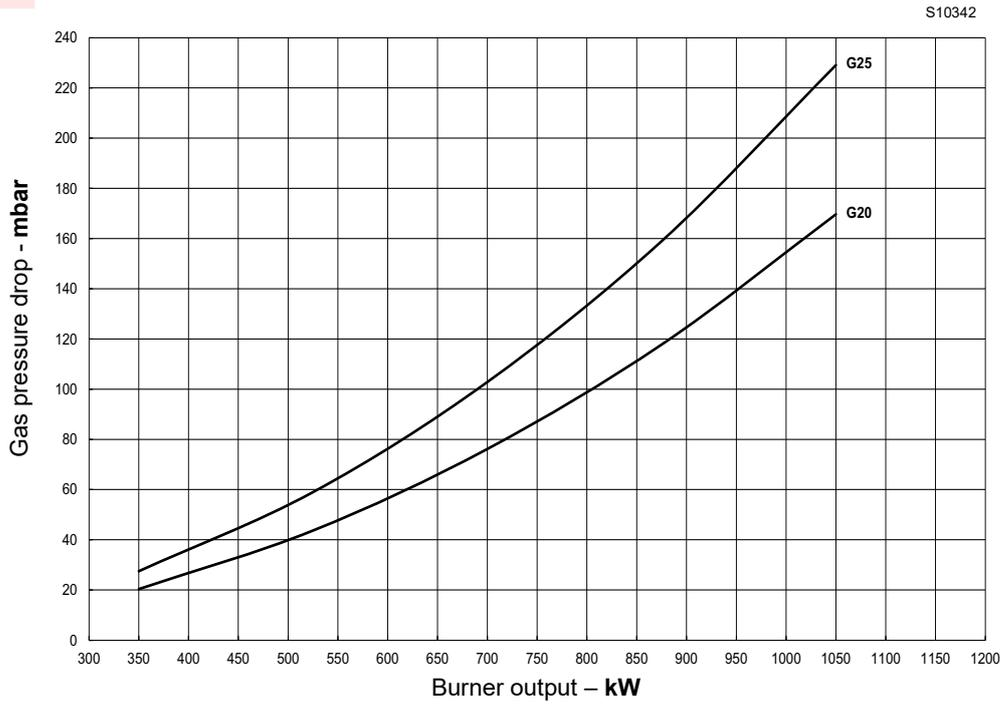
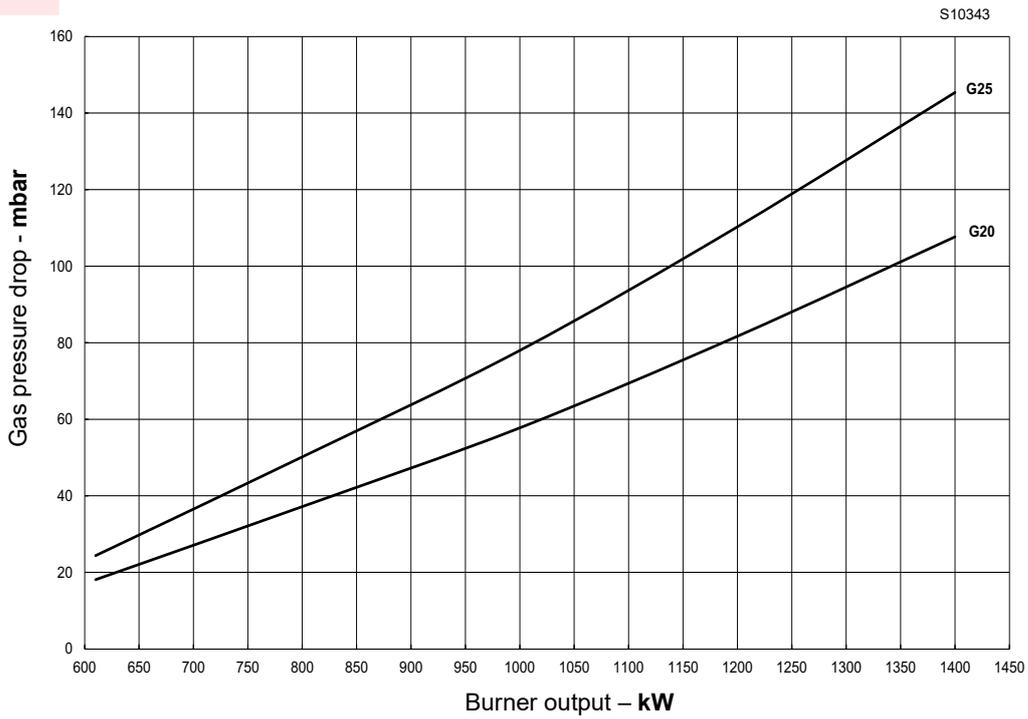
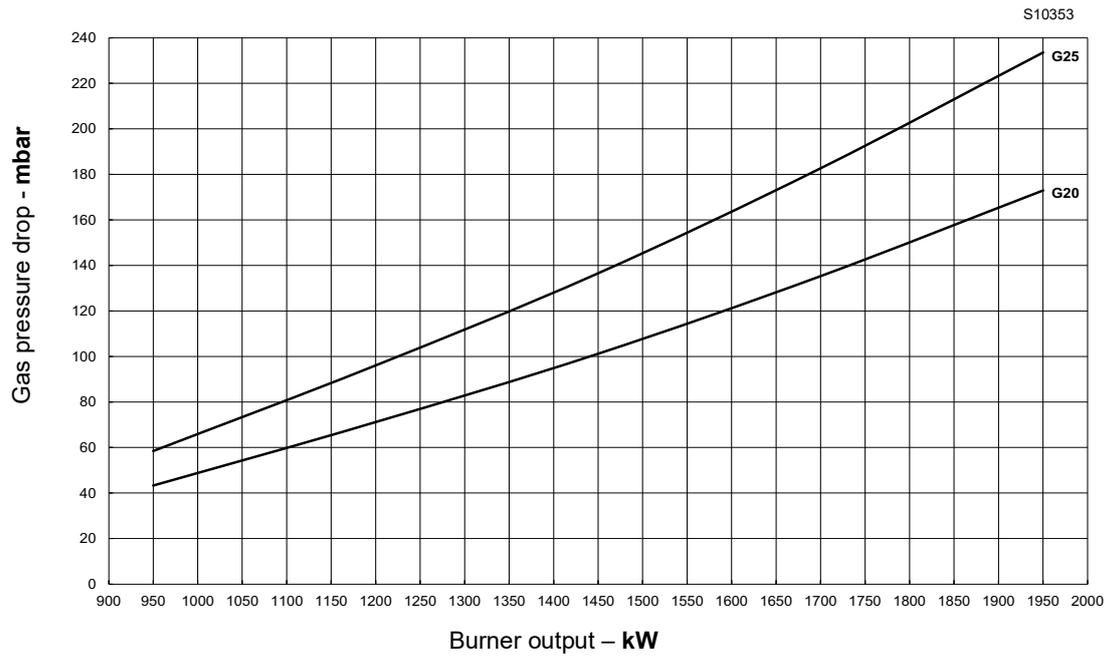
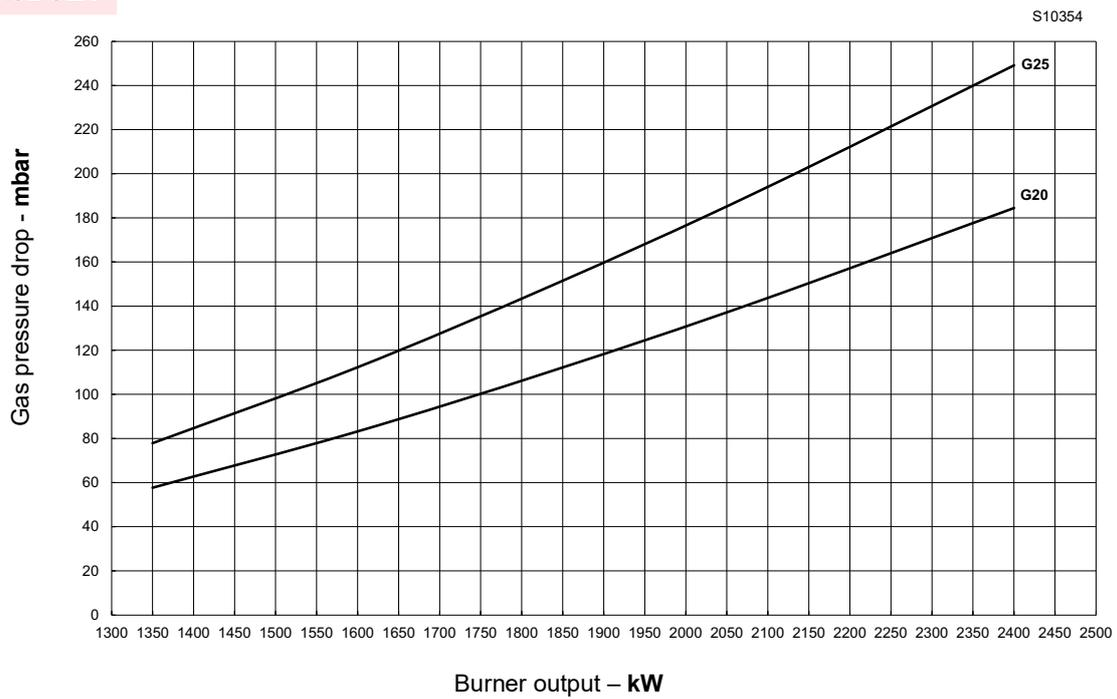

Fig. 25
Fig. 26
Fig. 27
Fig. 28
- Enter the mbar scale (Fig. 25, Fig. 26, Fig. 27 and Fig. 28) and read the corresponding output by reading on the line.
- find the nearest output value (Fig. 25, Fig. 26, Fig. 27 and Fig. 28).
- Bleed the air from the piping of the gas train, connecting a plastic tube to the pressure test point 1)(Fig. 26) of the minimum gas pressure switch. Take the vent tube outside the building so you can notice the smell of gas.